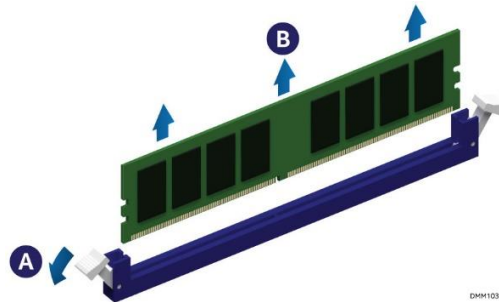

Figure 60. Memory Module Removal
4. Remove the memory module from the system (see Figure 60).